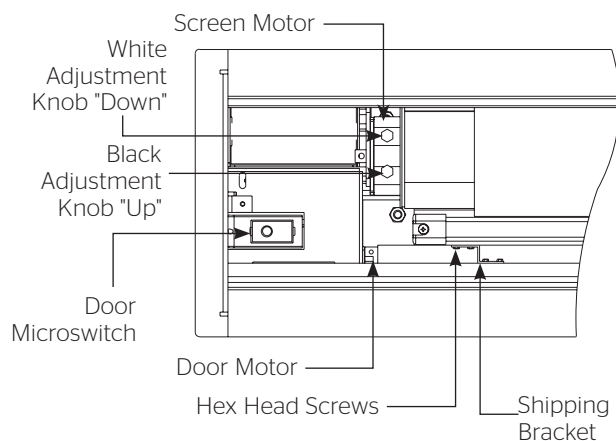

Figure 2
6. Remove shipping brackets by removing the hex head screws from aluminum slat and case. Slat should move freely. See figure 2. (Only if the roller assembly is preinstalled.)